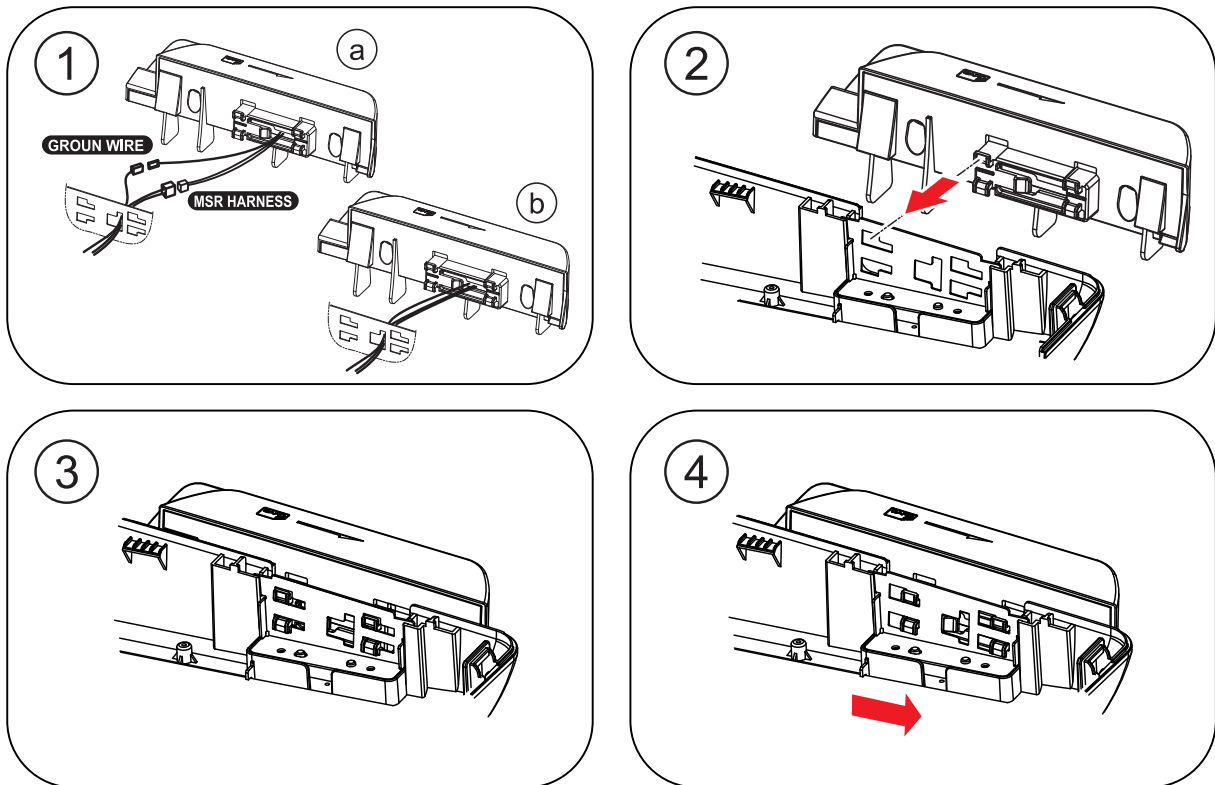

Figure 3-4 MSR Installation (2)
1. Connect Ground Wire & MSR Harness of MSR Assembly to the main set as shown in Figure 3-4-①-Ⓐ.
2. Tidy up the connectors of Ground Wire & MSR Harness by inserting them into the MSR Assembly (Connectors should be hidden inside the MSR Assembly), Figure 3-4-①-Ⓑ.
3. Insert MSR Assembly into the main set bracket holes as in Figure 3-4-②, Figure 3-4-③.
4. Tighten MSR Assembly by moving it to the direction shown in Figure 3-4-④.